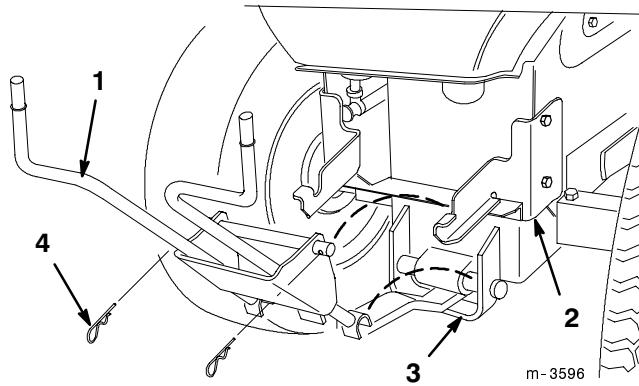

**Figure 14**
3. Mount the blower belt cover using (2) 1/4 x 5/8" 16 mm) bolts and (2) 1/4" locknuts (Fig. 14). Tighten the locknuts slightly so light drag is felt on the belt cover when it is tilted upward. The cover must close freely when assembled.